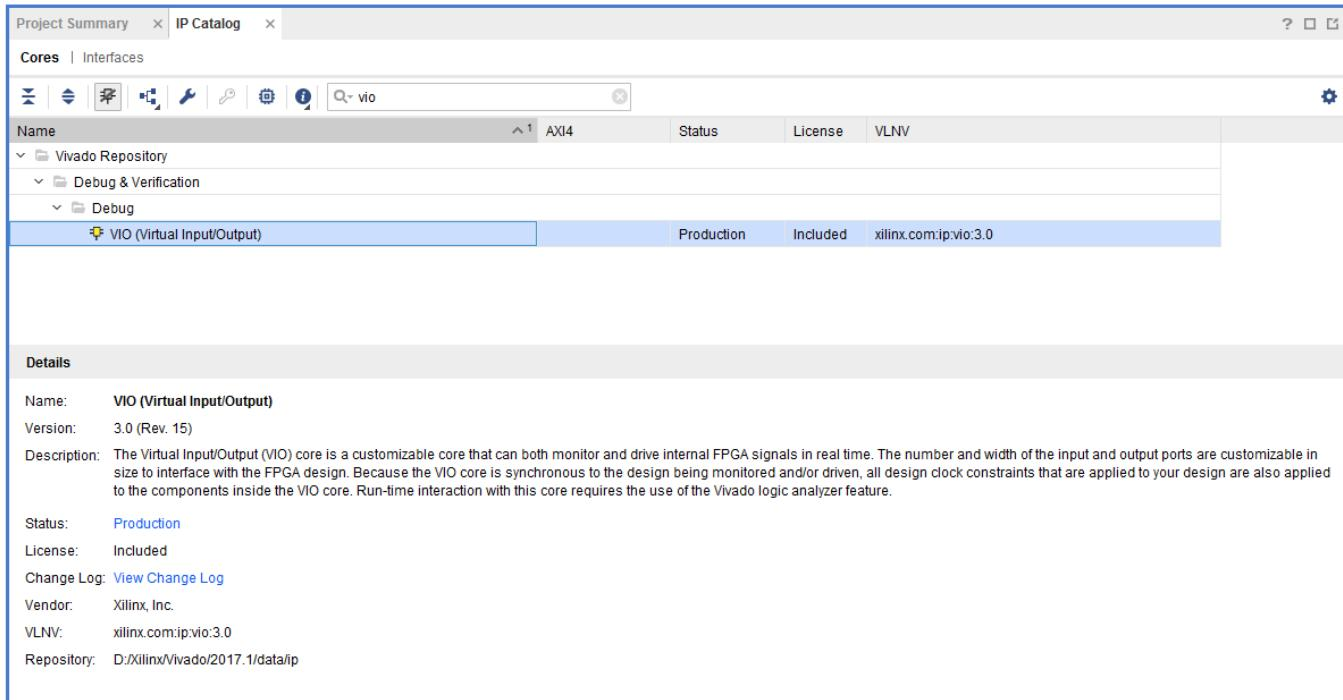

Figure 11.3: IP Catalog window with selected VIO core
2. In the **IP Catalog** window, in the **Search** field, search for the **VIO (Virtual Input/Output)** IP core. After you selected the VIO core, in the **Details** window, under the main IP Catalog window, you will find all the necessary information about selected IP core, see Figure 11.3.